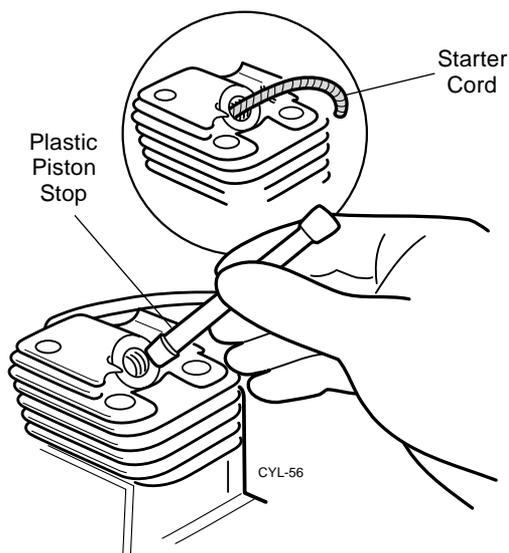

Figure 4.5 Locking the Crankshaft
STEP 1. Lock the engine crankshaft by inserting a plastic piston stop or length of starter rope into the spark plug hole. (Figure 4.5)